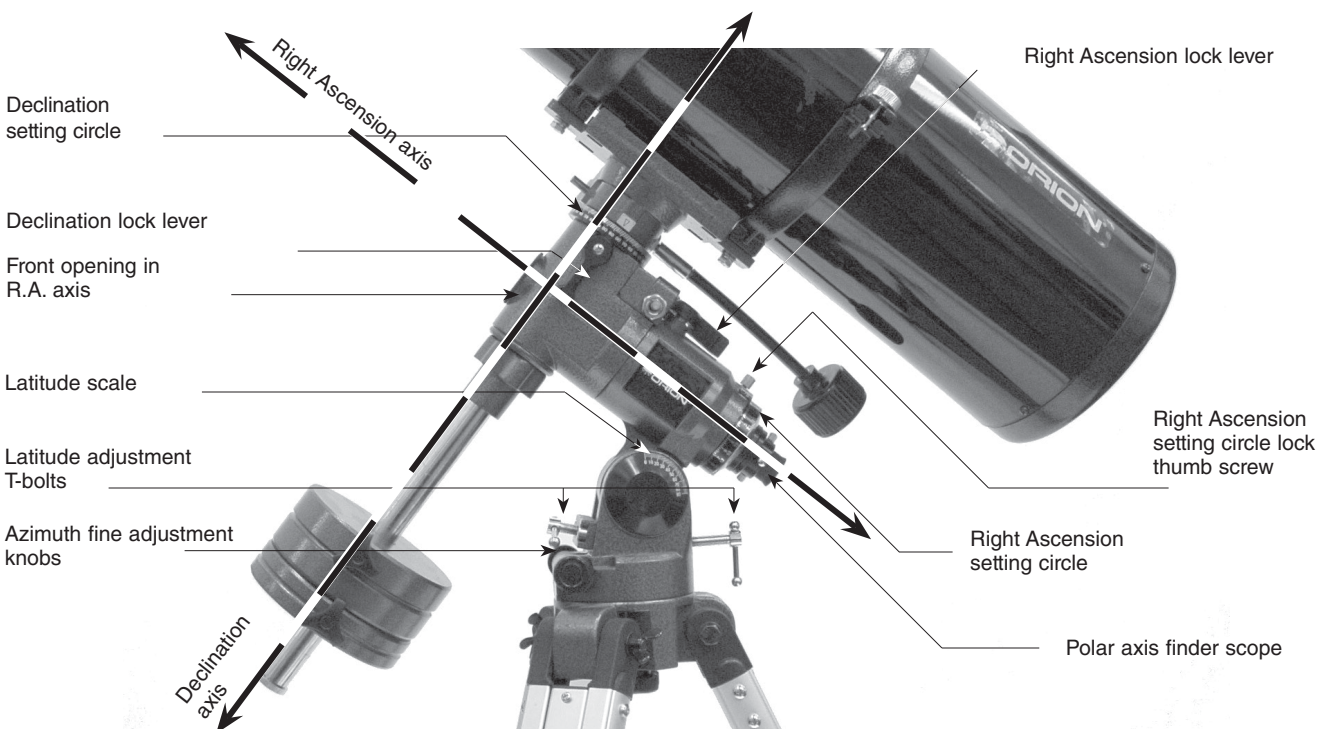

Figure 5. The AstroView equatorial mount (with attached telescope tube).
When you look at the night sky, you no doubt have noticed that the stars appear to move slowly from east to west over time. That apparent motion is caused by the Earth's rotation (from west to east). An equatorial mount (**Figure 5**) is designed to compensate for that motion, allowing you to easily "track" the movement of astronomical objects, thereby keeping them from drifting out of your telescope's field of view while you're observing.
3. Loosen the Dec. lock lever and rotate the telescope's optical tube until it is parallel with the R.A. axis, as it is in **Figure 5**. The pointer on the Dec. setting circle should read 90°. Retighten the Dec. lock lever.